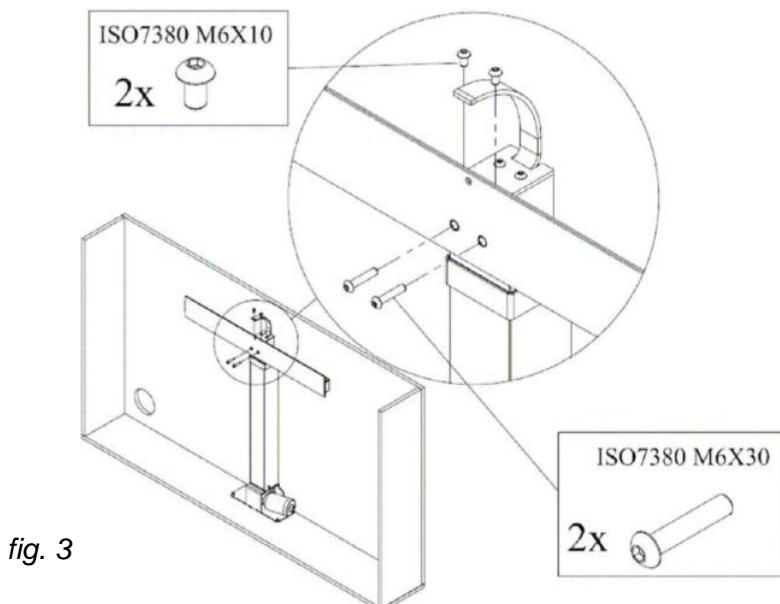

fig. 3
5. Using attached screws mount horizontal beam to the column (fig. 3)